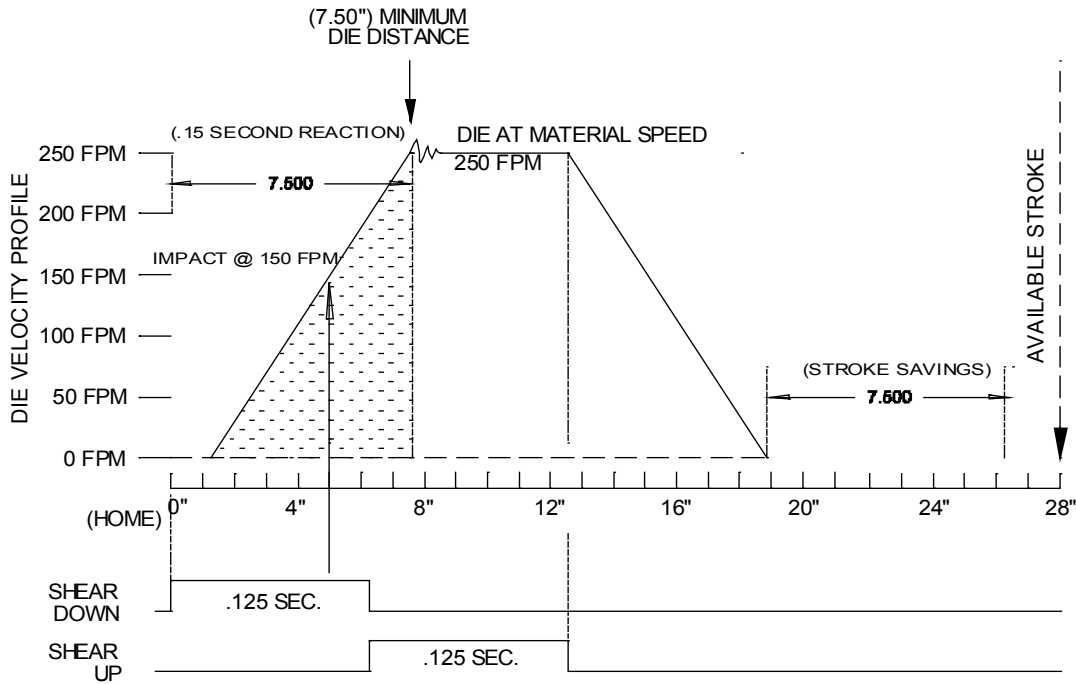

Figure 5-20 Improper use of shear reaction
- A SHEAR REACTION that is too large can cause the die to contact the material before the die is at full material speed or in an area of instability after attaining line speed. See Figure 5.20 for a graph of a faulty SHEAR REACTION setting. This can cause the material to be damaged and the die to “crash”.
A “Shear Reaction” can be programmed too large, causing a die to crash. In figure 5-20, note how the die hits the material about 5 inches into its travel. The die is only moving at 150 FPM at this point while the material is traveling at 250 FPM. With a differential of 100 FPM at the cut point, something is likely to get damaged.